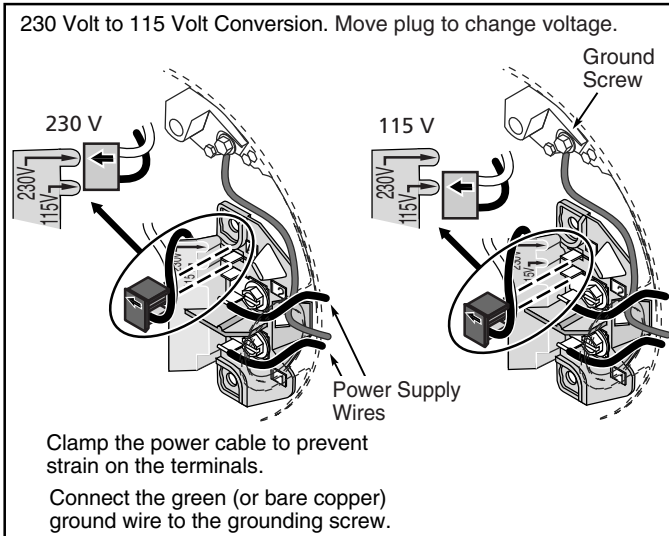

Figure 5: Motor wiring connection, Plug-in.
To Convert 230 Volts to 115 Volts, Plug-in type (see Figures 5 and 6).
3. Connect the green (or bare copper) ground wire to the green ground screw first (see Figures 5 and 6). Use a solid copper wire at least as large as the power supply wires.
4. Pull the plug straight out from the terminal board, from 230 Volt socket (Figures 5 and 6).
1. Connect ground wire first. Connect the ground first, then to green grounding terminal provided under motor canopy (see Figure 5) identified as GRD. Make ground connection to this terminal. **Do not** connect motor to electrical power supply until unit is permanently grounded; otherwise serious or fatal electrical shock hazard may be caused.